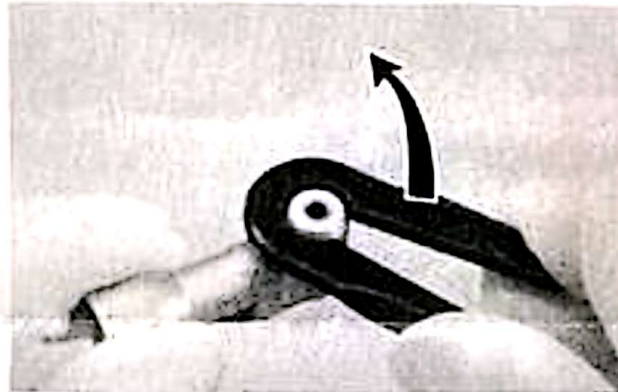

Fig. 4
- ③ Place cap wrench on the head cap and turn counter-clockwise. Unscrew and separate the cap. (Fig. 4).